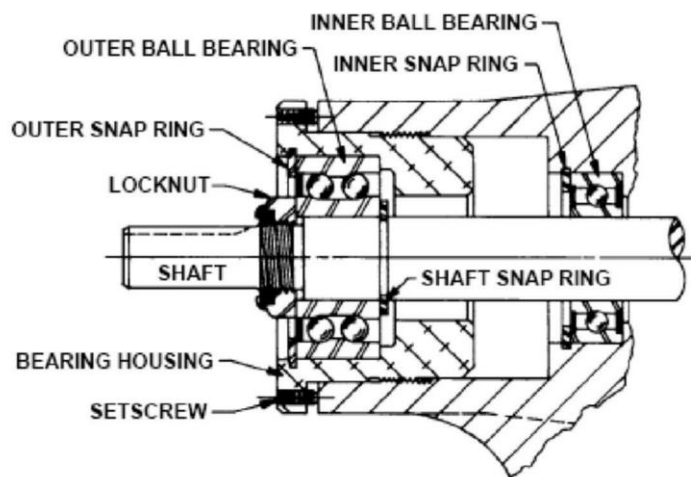
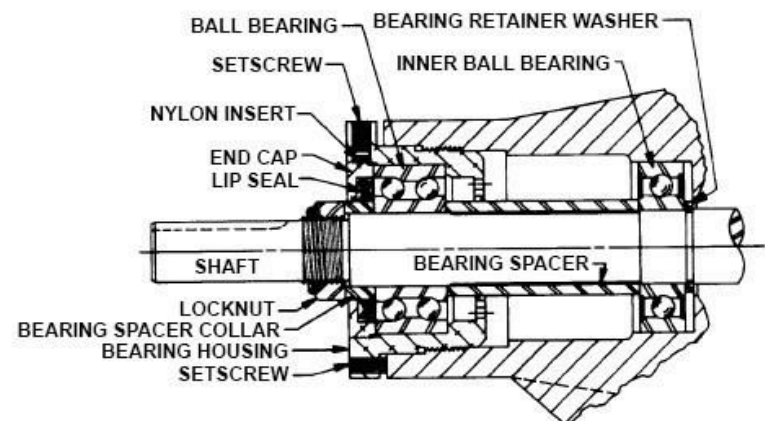

Figure 4. Thrust bearing assembly G-GG, G-HJ and G-HL models.
Figure 5. Thrust bearing assembly G-AS, G-AK and G-AL models.
4. Insert a brass bar or piece of hardwood in the port opening and between the rotor teeth to keep the shaft from turning. Turn the locknut counterclockwise and remove locknut. See Figure 4 or 5, page 5.
5. Loosen the two setscrews in the face of the bearing housing and turn the thrust bearing assembly counterclockwise and remove from casing. See Figure 4 or 5.
Models G-GG, G-HJ, and G-HL: Remove the snap ring from the shaft. See Figure 4.
Models G-AS, G-AK, G-AL: Remove the bearing spacer from the shaft. See Figure 5.
G-AS, G-AK, G-AL: Remove the bearing retainer washer. The washer may have stayed with the rotor and shaft when removed or is against the ball bearing. See Figure 5.
10. G-GG, G-HJ, and G-HL: Remove the outer snap ring from the bearing housing and remove the ball bearing. See Figure 4. G-AS, G-AK, G-AL: Loosen the two setscrews in the flange outside diameter. Rotate the end cap and lip seal counterclockwise and remove. Remove the ball bearing. See Figure 5.
10. On models G-GG, G-HJ, G-HL: Install the shaft snap ring in groove in the shaft. See Figure 4, page 5. On models G-AS, G-AK, G-AL: Install the bearing spacer over the shaft and against the single row ball bearing. See Figure 5, page 5.
See figures 4 and 5.